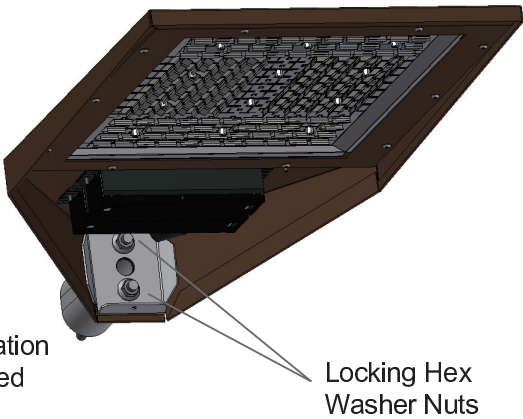

FIGURE 8
- 4. Proceed to Figure 8 below, ASSEMBLY OF LUMINAIRE TO POLE AND EXTENSION ARMS.
- 5. Proceed to Figure 8 below, ASSEMBLY OF LUMINAIRE TO POLE, EXTENSION ARMS.
ASSEMBLY OF LUMINAIRE TO POLE AND EXTENSION ARMS - Figure 8
- 2. Position luminaire over studs. Take care to not pinch luminaire wires. See Figure 8.